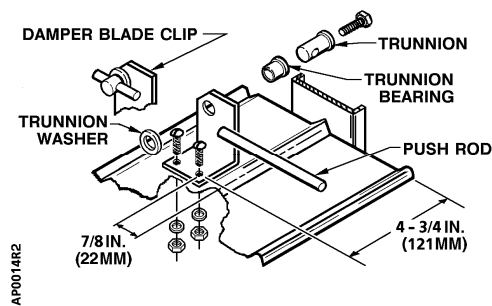
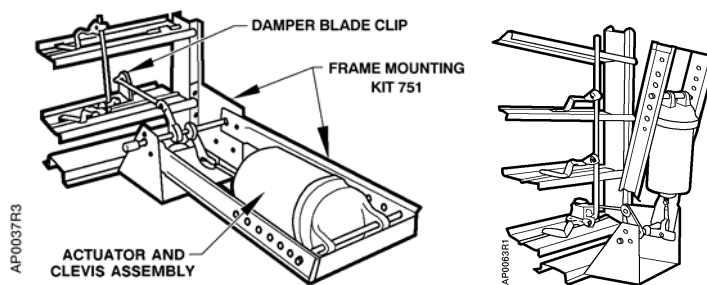

Figure 4. Damper Blade Clip.
Figure 5. One-section Damper.
One-section damper (Figure 5)	751*
See Figure 4 and Figure 5
1. Attach the damper mounting bracket to the lower right-hand corner (or upper left-hand corner if necessary) of the damper section with the six screws provided. For Arrow United Industries 1770 dampers, add the shim provided between the bracket and bottom of the frame. Have the damper manufacturer drill the holes in the damper frame (Figure 5).
2. Have the damper manufacturer drill the holes in the damper blade for the blade clips (Figure 4). Use the same clip location for both normally open and normally closed dampers. Attach the damper blade clip to the damper blade (Figure 4). Put the damper in its normal position, open or closed. Connect the push rod to the trunnion in the blade clip and tighten the setscrew. Connect the other end of the push rod to the crank on the drive shaft and tighten the trunnion setscrew on the push rod. Position the crank so the push rod is parallel to the bracket, then tighten the crank setscrews.